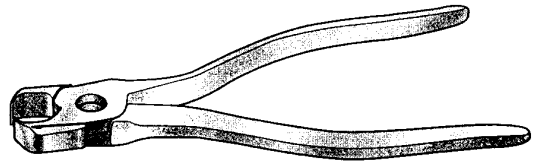

Figure 1-63. Hose Clamp Pliers, Part No. HD-97087-65B
- a. Thread fitting (2) on right hand threads of fuel tank two turns.
- b. Hold fitting (2) and thread body of fuel supply valve into left hand threads of fitting for two turns.
12. See Figure 1-63. Connect the fuel hose to the valve using **new** clamp and HOSE CLAMP PLIERS (Part No. HD-97087-65B).